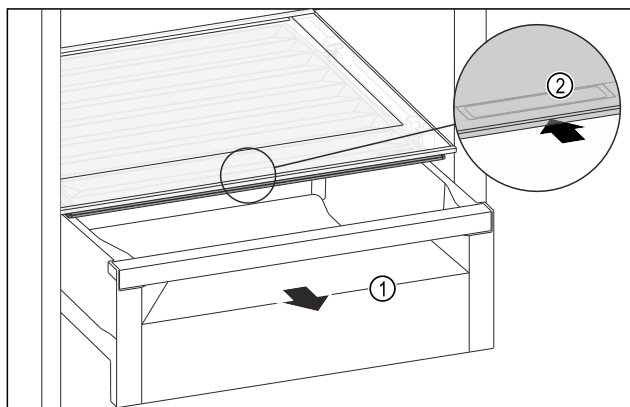

Fig. 151
- Pull out the drawer Fig. 151 (1).
- Grasp the recessed grip Fig. 151 (2) on the compartment lid and push the compartment lid backwards at the same time.